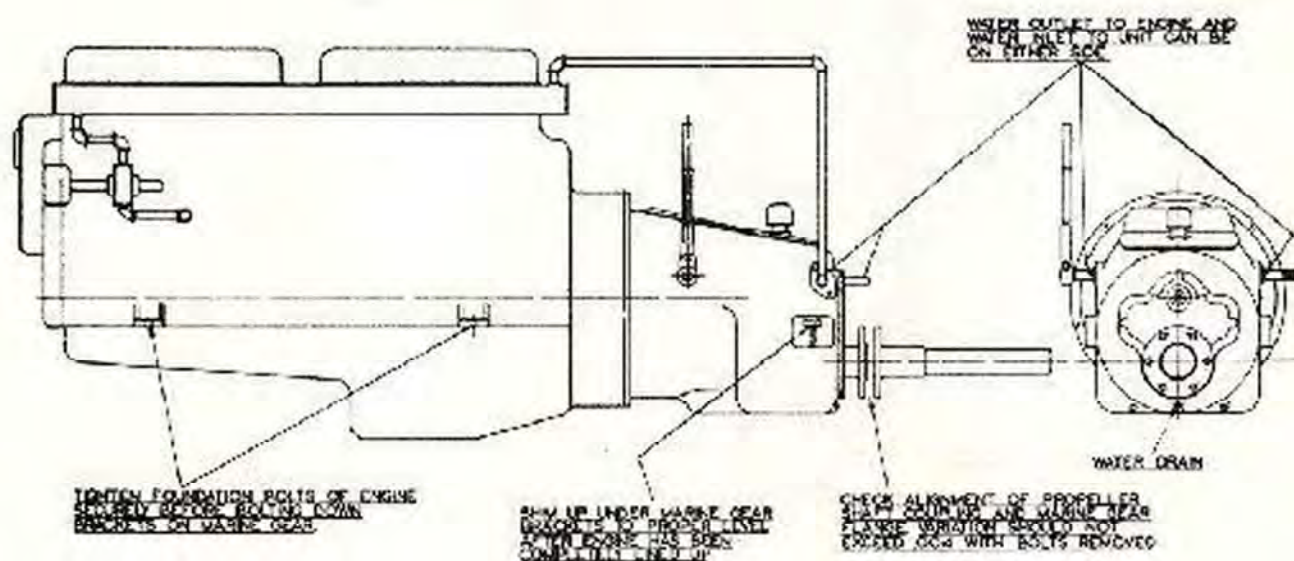

FIGURE 5
**ASSEMBLY IN BOAT** — Wherever possible it is recommended to assemble a new Marine Gear to the engine before it is installed in the boat. After the entire assembly has been set on the foundation provided for the same, it must be properly aligned with the propeller shaft. Care should be taken to make this alignment without pulling the support brackets on the Marine Gear out of their proper position, and for this reason it is recommended to provide clearance for shimming at this point, as indicated in Figure 5. It is advisable to recheck the alignment after the engine foundation bolts have been tightened and then to carefully shim
up under the Marine Gear support brackets. Experience has shown that the hull often changes its shape after the boat has been launched, and it is advisable to recheck and correct the alignment, if necessary, with the boat in the water. This can be accomplished by removing the bolts in the propeller shaft coupling and checking the spacing of the two flanges on the circumference. (Refer to Figure 5.) For satisfactory alignment, the variation should not exceed .004".
COOLING WATER CONNECTIONS — After the Marine Gear has been assembled to the engine and the control mechanism has been hooked up, the only other outside connections that need to be made are those for the cooling water jacket. In the housing, a cooling water jacket is provided that should be hooked up with the cooling water system of the engine. It is recommended to arrange the piping, as shown on Fig. 5, in such a way that the cooling water is circulated through the water jacket of the Marine Gear before it reaches the jackets on the engine or the water-cooled exhaust manifold.
**OIL TEMPERATURE** — The normal oil temperature during continuous full load operation is 180° F. and a maximum temperature of 200° F. is permissible. In order to maintain the oil at moderate temperatures, a means to cool the oil in the form of a cooling water jacket is built integral with the rear end of housing. As indicated in the installation instructions and in Figure 5, piping for the cooling water circuit should be arranged so that the water circulates through the water jacket of the Marine Gear before it reaches the engine. In order to reduce the possibility of condensation forming in the Marine Gear, it is recommended to install a bypass in the cooling water circuit so that the cooling water jacket is not used and the water conducted directly to the engine whenever the operating temperature of the Marine Gear is 90° or less during continuous full load operation in winter time.